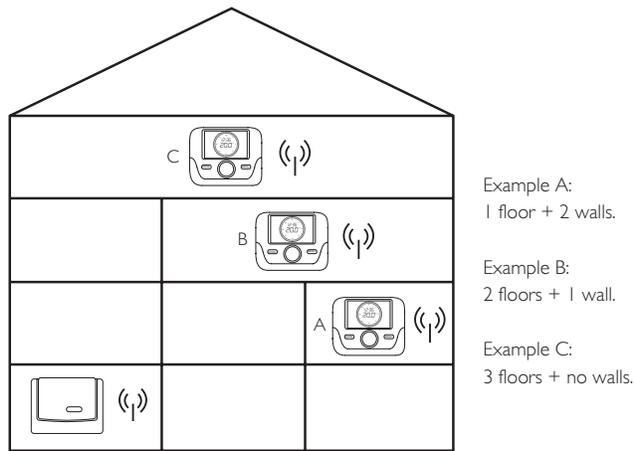

Fig. 13 Maximum permitted separation
4. Error 85 is due to the Programmer & Room Sensor not communicating with the Receiver. The Programmer & Room Sensor is either out of range or has not synchronized correctly. Check the unit's location (Fig. 13) or proceed to the Manual Sync process in Section 6.0
- The Programmer and Room Sensor and the Receiver are within range of each other. See Fig. 13 and Section 5.2
6. The maximum distance between the Receiver and the Programmer & Room Sensor will depend on the layout of the house. For a typical house, a guideline of 3 floors or walls can be used, as shown in Fig. 13.